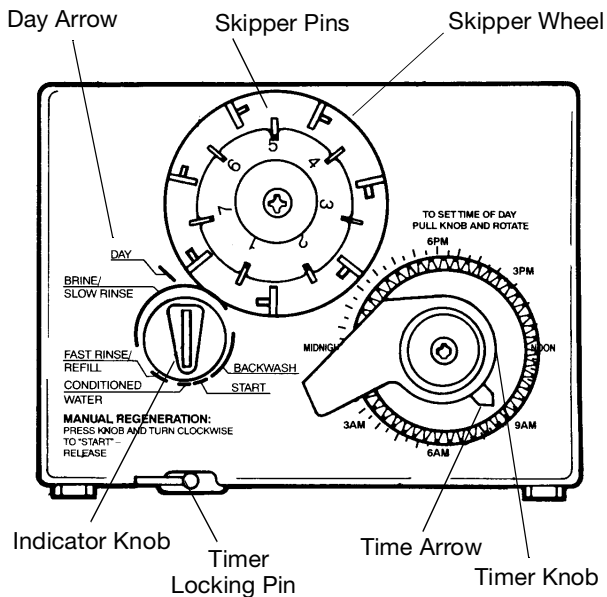
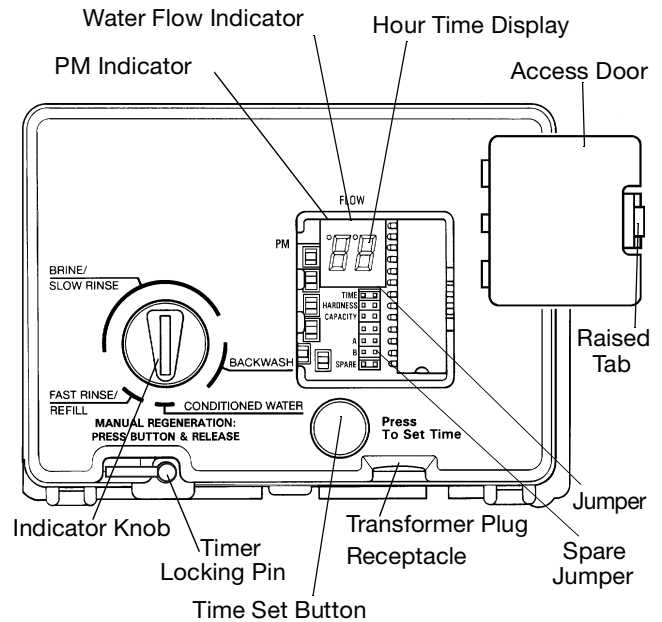

Figure 5
Figure 6
**Note:** The following steps will require turning the indicator knob (Figure 5 and Figure 6) to various positions. Manually rotate the camshaft **COUNTERCLOCKWISE** only until indicator knob points to desired position. (See manual regeneration sections for each control's manual operation.)
- Set days of regeneration on skipper wheel (Figure 5).
**Note:** The Timer Locking Pin should always be horizontal (Figure 5) during operation.
Open the access door by pushing the raised tab on the door toward the left while pulling the tab out (Figure 6).
**Note:** The Timer Locking Pin should always be horizontal (Figure 6) during operation.
When abnormally high water usage exhausts your water conditioner's capacity ahead of schedule, an extra regeneration can be achieved. Depress the indicator knob on the 440i (Figure 5) with a wide-blade screwdriver and turn **COUNTERCLOCKWISE** to **START** to initiate a regeneration. For the 460i, simply depress the indicator knob (Figure 6). It will take a few minutes for regeneration to start. A normal regeneration will take approximately two hours.
Electricity is used only to run the control and to rotate the camshaft. All other functions are operated by water pressure. Therefore, in the event of a power outage, all the regeneration positions may be dialed manually by depressing the indicator knob and turning **COUNTERCLOCKWISE** (Figure 5 and Figure 6). The following cycle times should be used for proper regeneration: